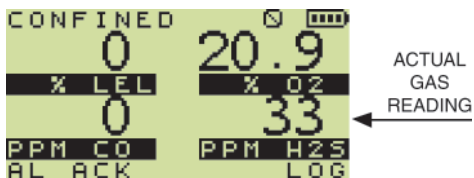

Fig. 11.7 LTEL H₂S Alarm
Examples 6 and 7 (Fig. 11.6 and Fig. 11.7) shows an instrument in Confined Space Mode with Time Weighted Average STEL and LTEL H₂S alarms for toxic sensors. In both cases, the audible alarm warbles and eight (8) LED's ramp.